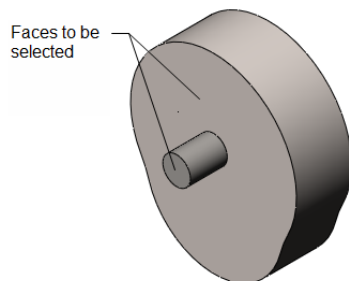

Figure 20-25 Faces to be selected
10. Specify the value of distance as **4** in the edit box and press ENTER. Next, select the planar faces of the pin and cam, refer to Figure 20-25; the distance mate is applied to the planar faces. Also, a pop-up toolbar is displayed.